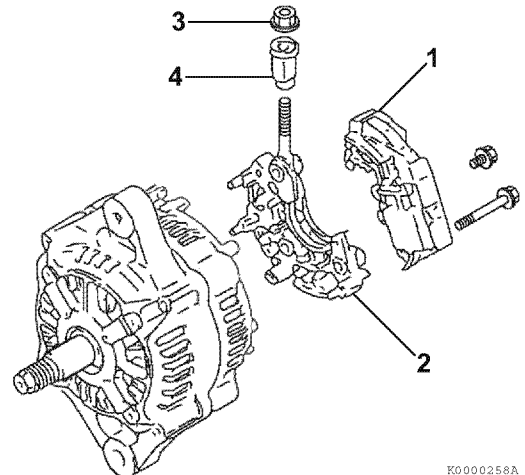

Figure 11-16
- Reinstall the insulation bushing (**Figure 11-16, (4)**) and nut (**Figure 11-16, (3)**).
- Reassemble the regulator assembly (**Figure 11-16, (1)**) to the holder (**Figure 11-16, (2)**).